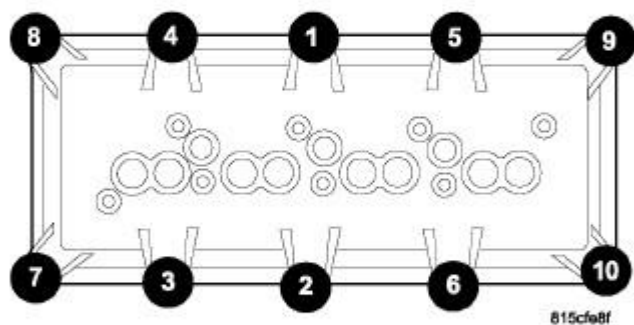

Fig. 109: Cylinder Head Cover Torque Sequence
11. Using the sequence shown in illustration, tighten the cylinder head cover retaining bolts to 8 N.m (71 in. lbs.). See **Fig. 109**.